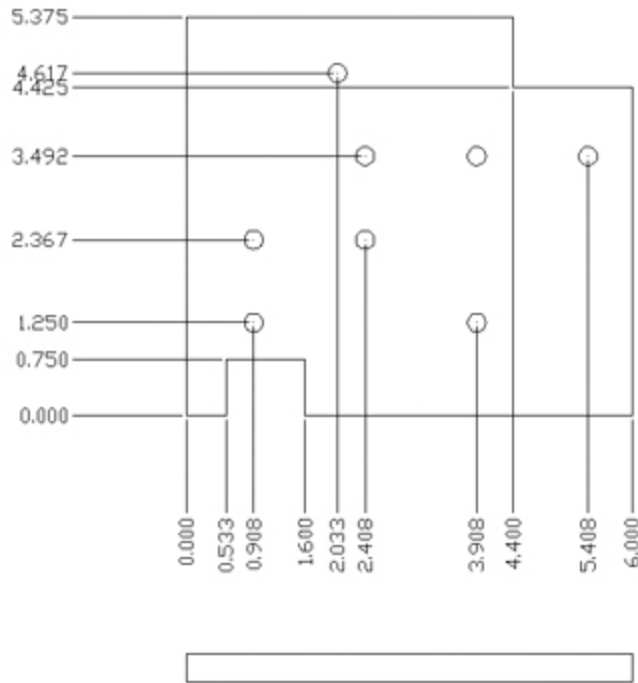

Figure 13-41
- 7** Restart the **QDIM** command. AutoCAD defaults to the **Ordinate** option. Place the Y-datum dimensions shown in Figure 13-41.
- 8** Save your drawing as **CH13_EXERCISE8**. Your drawing should look like Figure 13-41.